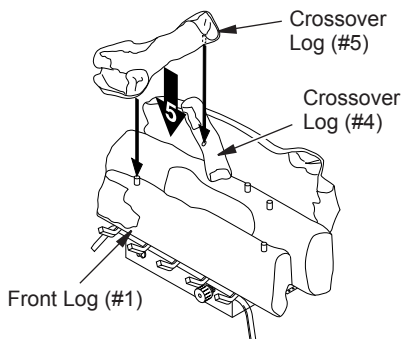

**Figure 21 - Installing Rear Log #3
3. Locate pins on bottom of back log (#3). Slide these pins into holes in grate base behind burner (see Figure 21).